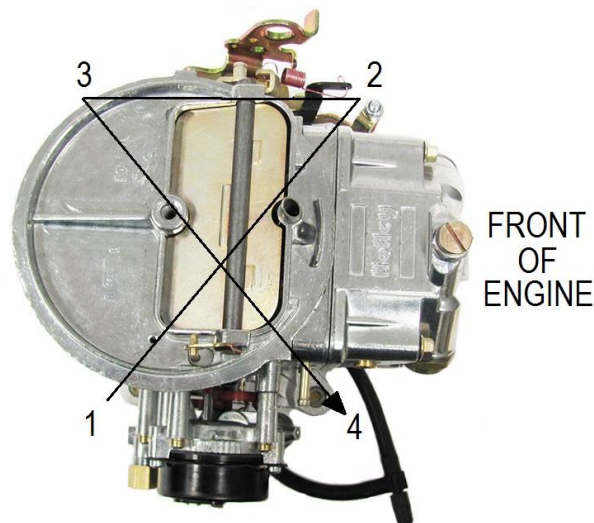

Figure 4 - Carburetor torque sequence
3. Place the carburetor on top of the flange gasket on the manifold. Install the hold down nuts and snug down progressively in a "crisscross" pattern (60-80 in./lbs.), as shown in Figure 4.